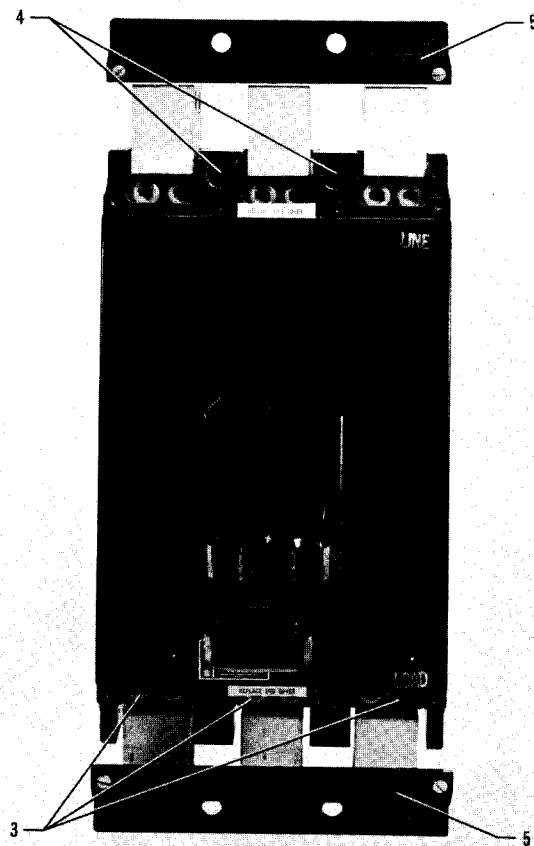

Fig. 2—Front View of Circuit Breaker
2. Remove rear connection stud terminal bolts (3, Fig. 2) and pull circuit breaker forward or away from rear connection studs.
2. Remove pressure wire connector mounting bolts (3, Fig. 2) and bend cables with connectors clear of circuit breaker.